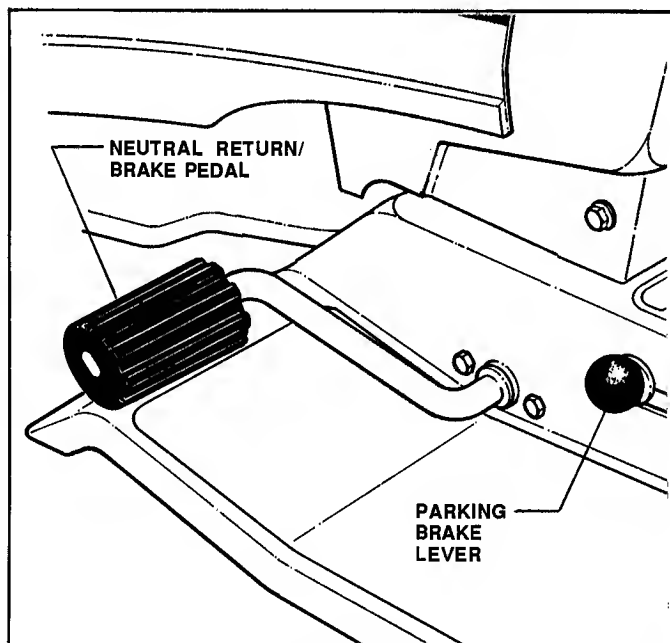

FIGURE 3
**WHEEL DRIVE:** *STOP FORWARD MOTION* of mower by pushing NEUTRAL RETURN/BRAKE PEDAL all the way down. See Figure 3.